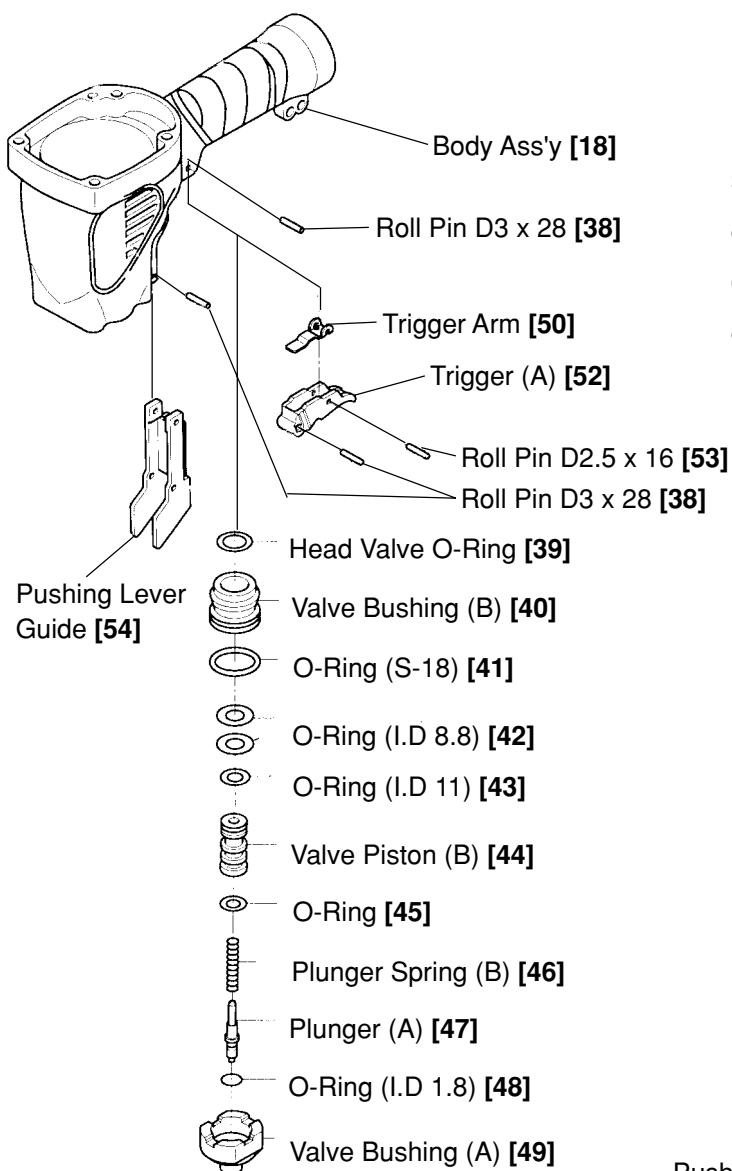

Fig. 22
10-3. Disassembly and Reassembly of the Control Valve Section (See Fig. 22)
- To remove the Pushing Lever Guide [54] together with the driving section (Pushing Lever (C) [24], the Nose [20], etc.), remove the Trigger [52] while forcing up Pushing Lever (C) [24], as shown in Fig. 22.